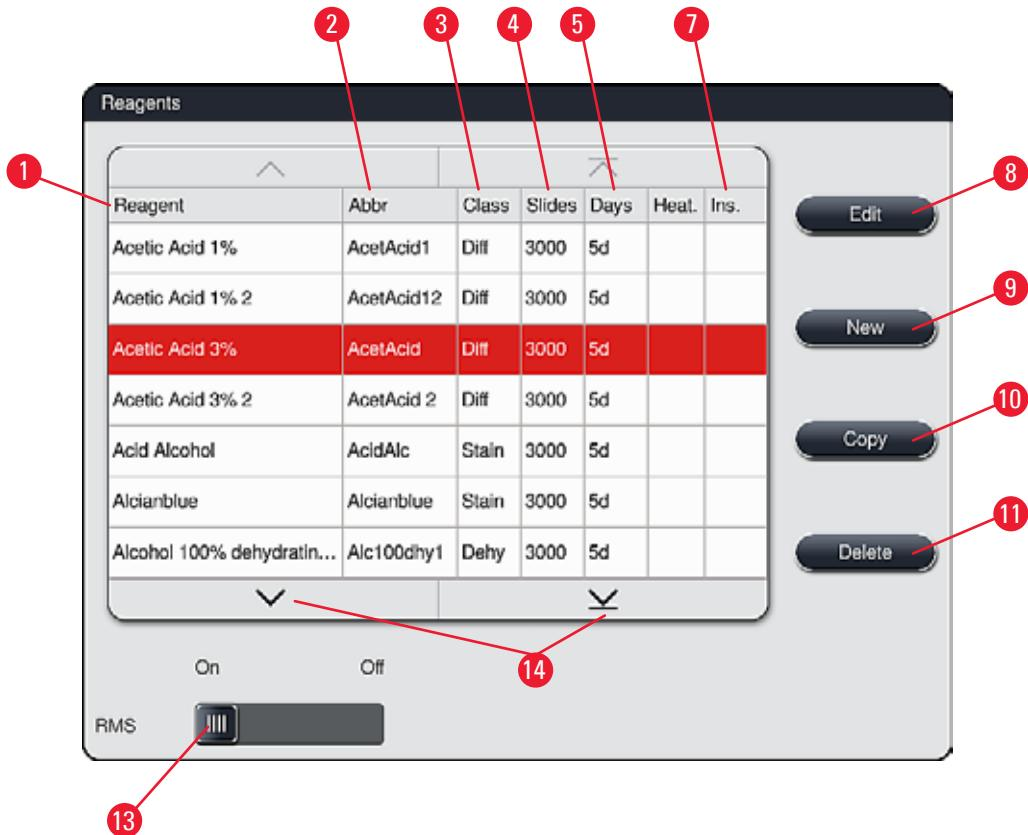

Fig. 36
- Select the reagent to be copied in the reagent list ( $\rightarrow$  Fig. 36) by tapping it and press the "Copy" ( $\rightarrow$  Fig. 36-10) button.
- Select the reagent to be changed in the reagent list (→ "Fig. 36") by tapping it and press the "Edit" (→ "Fig. 36-8") button.